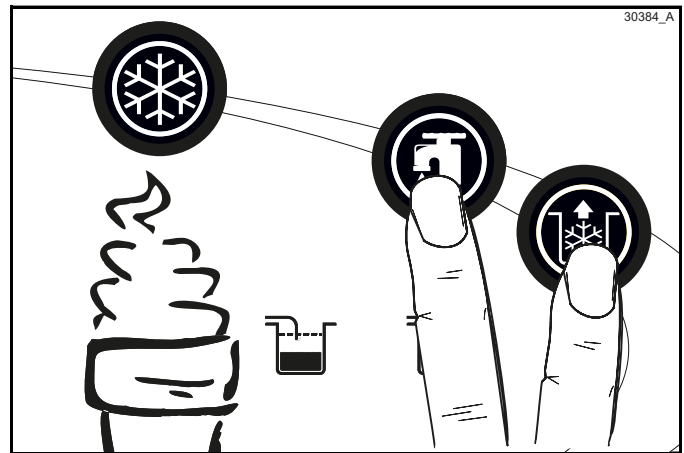

Figure 6-50
9. Press the Wash  and Pump  keys and close the draw valve. (See Figure 6-50.)